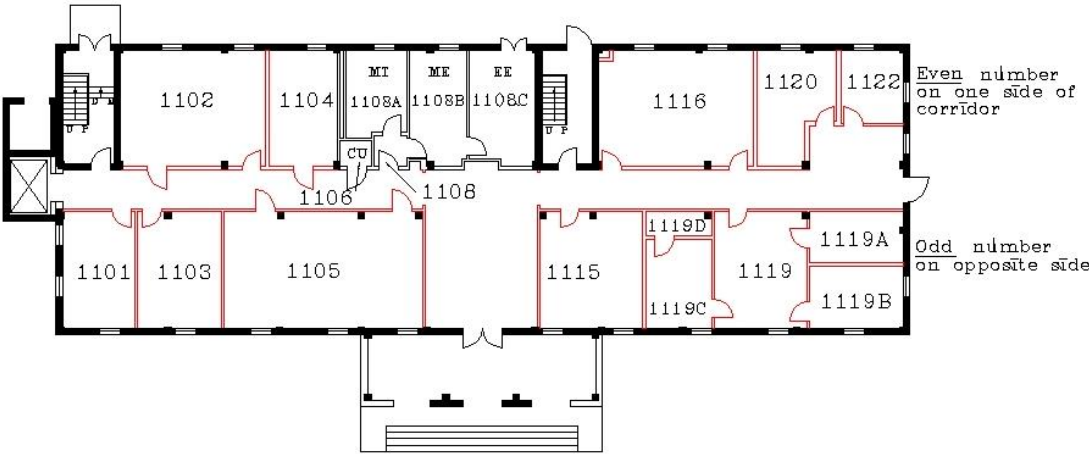

Figure 2
- Room Numbering shall read with even numbered rooms on one side of the public corridor and odd numbered rooms on the opposite side. (See figure 2.)